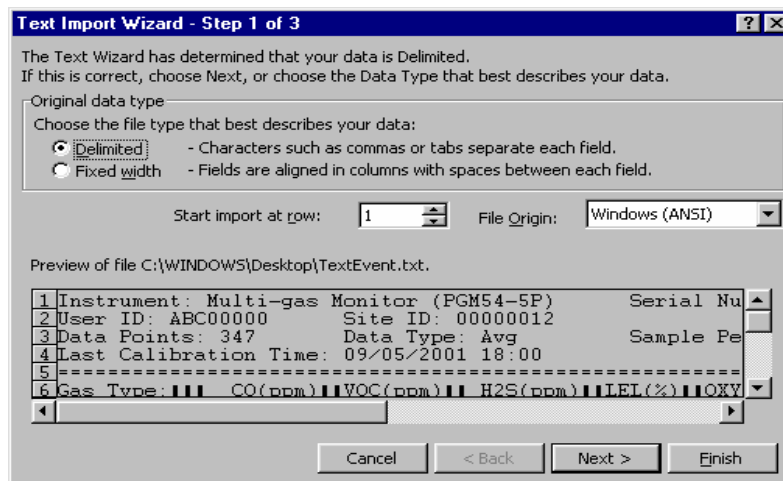

Figure C-3 **Text Import Wizard** Dialog Box
- Click **OK** button, a **Text Import Wizard** dialog box is open, as shown in Figure C-3.